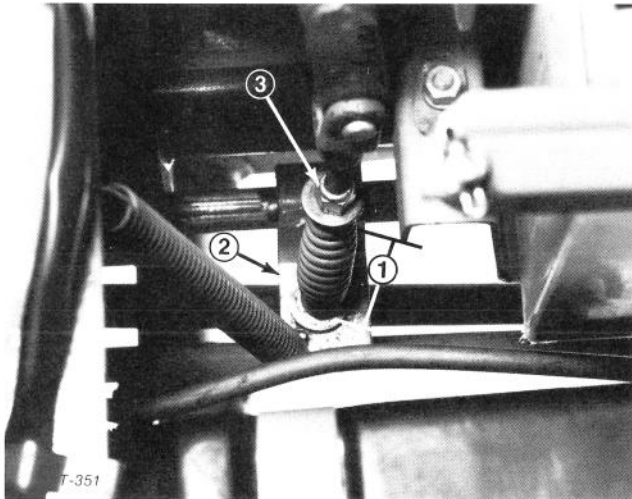

Figure 60
3. Measure length of PTO spring between flat-washers (Fig. 60). There should be a spring length of 3-3/16 in. (81 mm).
4. To adjust, hold head of adjusting screw with wrench (under PTO actuating arm) and turn locknut (Fig. 60).